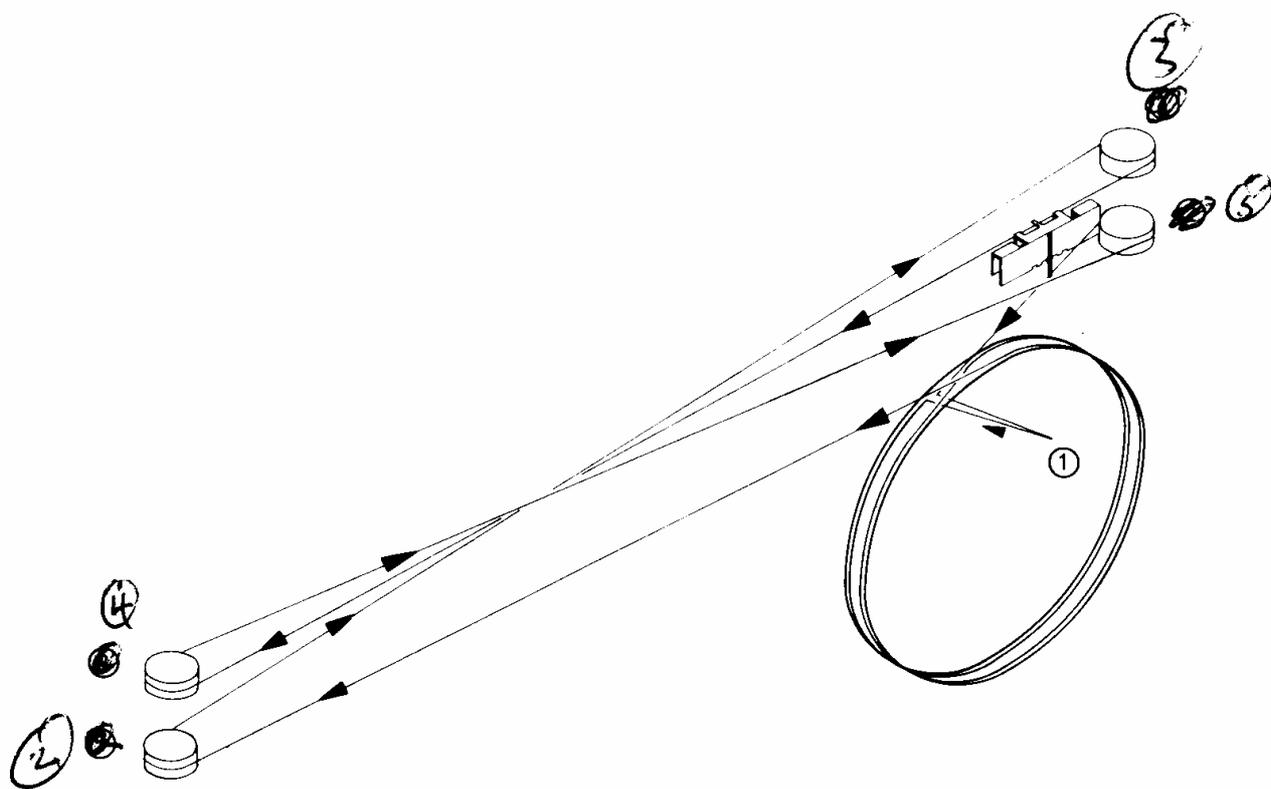

Fig. 1 Restringing Diagram
(1) Remove all the front panel knobs.
(2) Remove the perspex front panel after extracting the screws.
(3) Slacken the coupling between the shaft of the drum and the printed board.
(4) Remove the printed board after extracting the screws.
(5) Referring to Fig. 1, tie one end of the *string to the drum spring at position 1 and thread the other end through the hole in the drum.
(6) Wind one anti-clockwise turn around the drum and continue to 2.
(7) Pivot clockwise around 2 and continue to 3.
(8) Pivot ~~anti~~ clockwise around 3 and continue to 4.
(9) Pivot ~~anti~~ clockwise around 4 and continue to 5.
(10) Pivot anti-clockwise around 5 and then pass over the top of the drum and make approximately one anti-clockwise turn.
(11) Finally thread the string back through the hole in the drum and tie it to the spring at the same time taking up any slack.
(12) Fit the indicator to the string running between positions 3 and 4 as illustrated in Fig. 1.